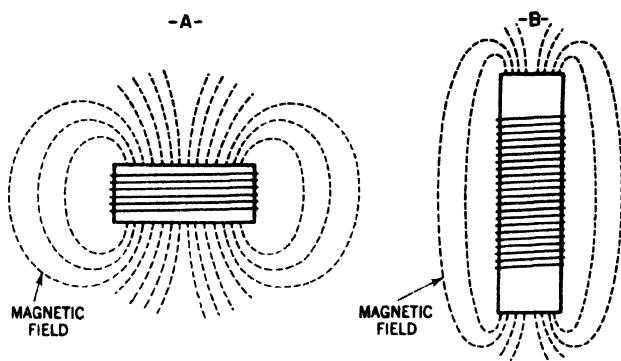

**Fig. 23-4.** Tuned radio-frequency transformers mounted near one another. The dotted lines around each coil represent its magnetic field.
**Setting the Transformers at Right Angles to Each Other.** Another solution is to mount our transformers so that the windings, and hence the magnetic fields, are at right angles to each other (Fig. 23-4-B). In such an arrangement, the transfer of energy from one transformer to another is at a minimum. (See the discussion of coupling in the regenerative receiver in Chapter 16.)